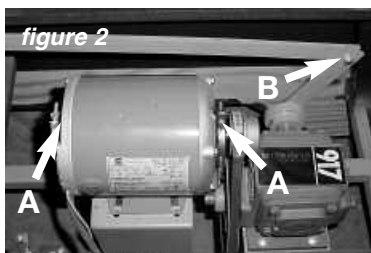

figure 2
3. Remove the caps on either side of the motor (caps will be yellow or red, see 'A', fig. 2). Remove the caps with a screwdriver and then with your household oil, put approximately 5 drops into each side.
4. Apply 3 or 4 drops of oil to the Push-Rod Bushing (see 'B' fig. 2).